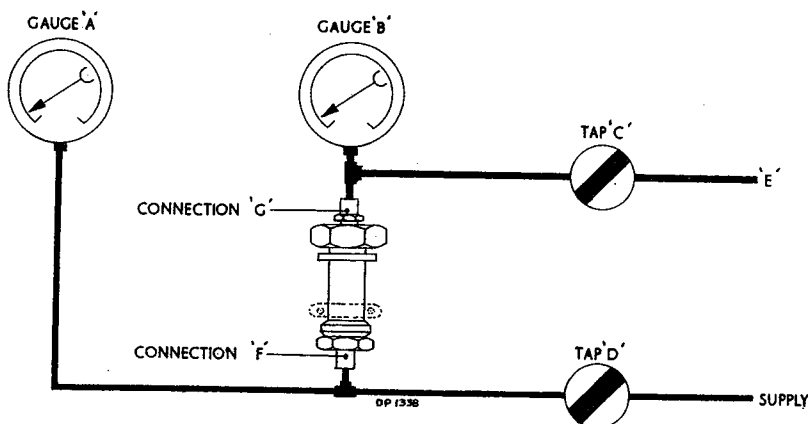

Fig.4 Test rig
10.1 Assemble the unit to the test rig as shown in Figure 4.